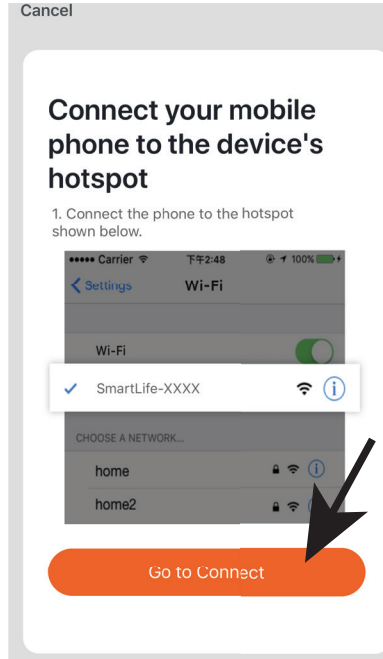

Fig 12
5. Tap on **“Go to Connect”** (Fig 12)